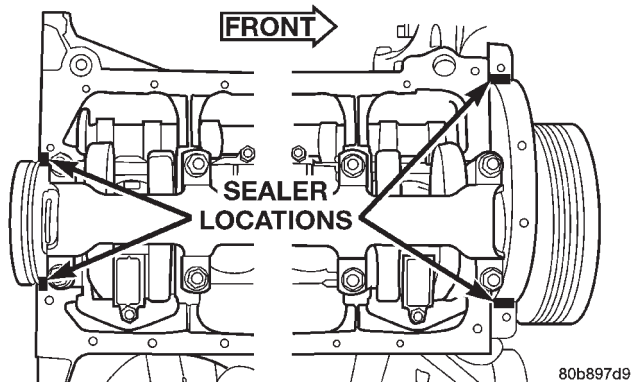
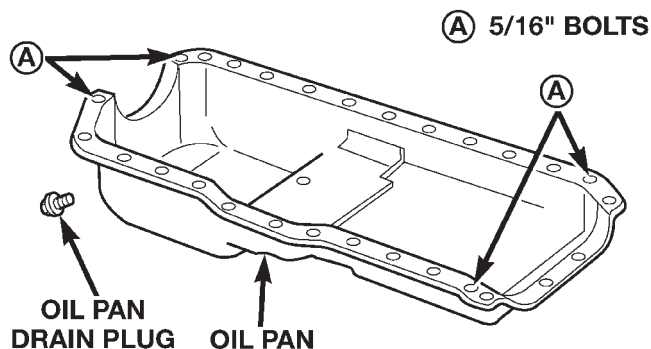

Fig. 50 Oil Pan Sealer Location
Fig. 51 Position of 5/16 inch Oil Pan Bolts
- (4) Apply Mopar® Silicone Rubber Adhesive Sealant on cylinder block to rear main bearing cap corners and cylinder block to front cover joints (four places) (Fig. 50).
- (5) Slide the one-piece gasket over the dowels and onto the block and timing case cover.
- (6) Position the oil pan over the dowels and onto the gasket. If equipped with an oil level sensor, take care not to damage the sensor.
- (7) Install the 1/4 inch oil pan bolts. Tighten these bolts to 9.5 N·m (84 in. lbs.) torque. Install the 5/16 inch oil pan bolts (Fig. 51). Tighten these bolts to 15 N·m (132 in. lbs.) torque.
- (8) Remove the dowels. Install the remaining 1/4 inch oil pan bolts. Tighten these bolts to 9.5 N·m (84 in. lbs.) torque.
- (9) Lower the engine until it is properly located on the engine mounts.
- (10) Install the through bolts and tighten the nuts.
- (11) Lower the jack stand and remove the piece of wood.
- (12) Install the engine flywheel and transmission torque converter housing access cover.
- (13) Install the engine starter motor.
- (14) Connect the exhaust pipe to the hanger and to the engine exhaust manifold.
- (15) Install transmission oil cooling lines (if equipped) and oxygen sensor wiring supports that attach to the oil pan studs.
- (16) Install the oil pan drain plug (Fig. 51). Tighten the plug to 34 N·m (25 ft. lbs.) torque.
- (17) Lower the vehicle.
- (18) Connect negative cable to battery.
- (19) Fill the oil pan with engine oil to the specified level.